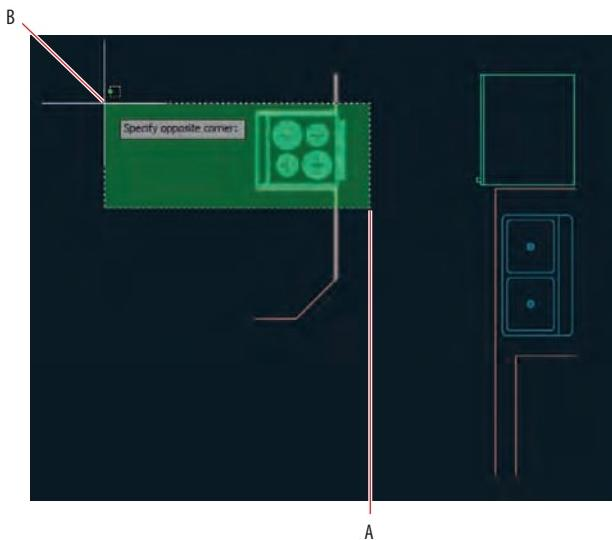

FIGURE 6.30 Stretching isolated objects
3. Click the Stretch button in the Modify panel. Make a crossing selection from point A to B, as shown in Figure 6.30, and press Enter. Toggle on Ortho mode if it is not on already. Click an arbitrary first point, move the cursor downward a short distance to establish the vertical direction for the STRETCH command, type **12 (30** in metric), and press Enter.